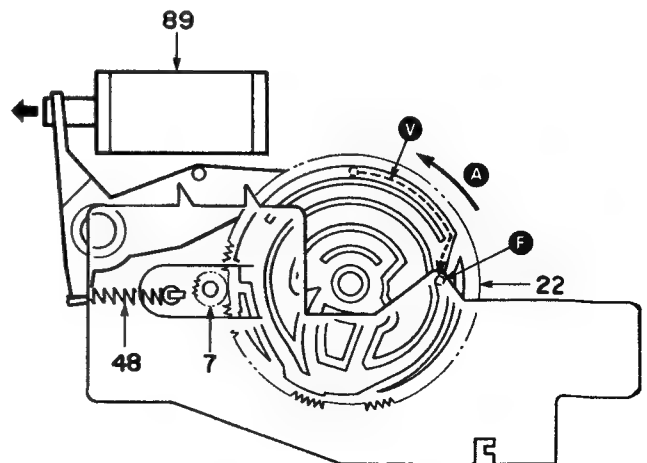

Fig. 15
- 3-2) By a signal from the microcomputer, the SOLENOID (89) turns OFF.
- 3-3) The FD ARM (12) is swung by the SPRING (48), and the FD GEAR (22) is pushed by the SUB-CHASSIS and rotated in direction (A).
- 3-4) The FD GEAR meshes with the GEAR (7) of the FLYWHEEL, and starts to rotate. The pin (F) of the SLIDER (11) passes through the orbit (V) and stops at position of Fig. 15.